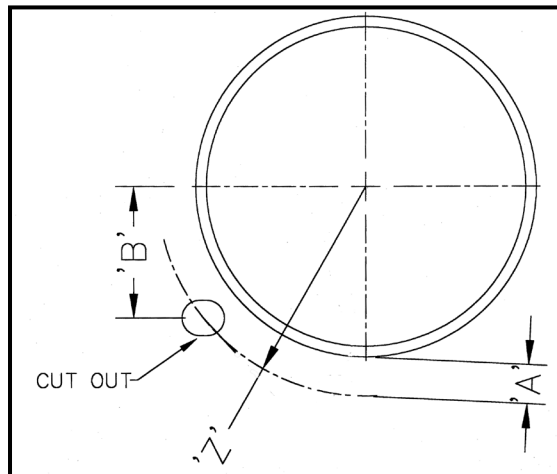
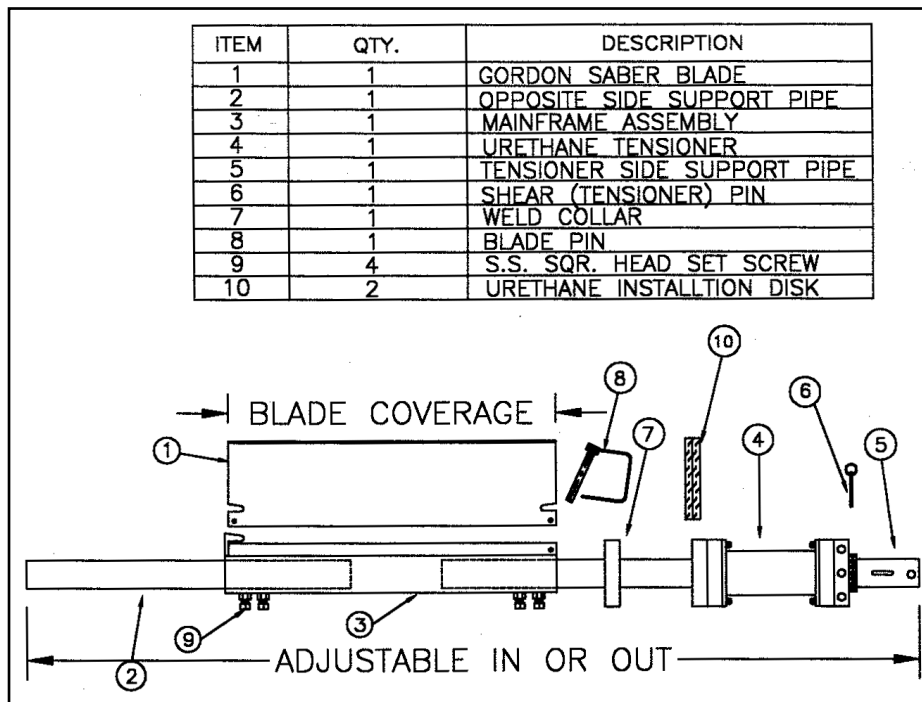
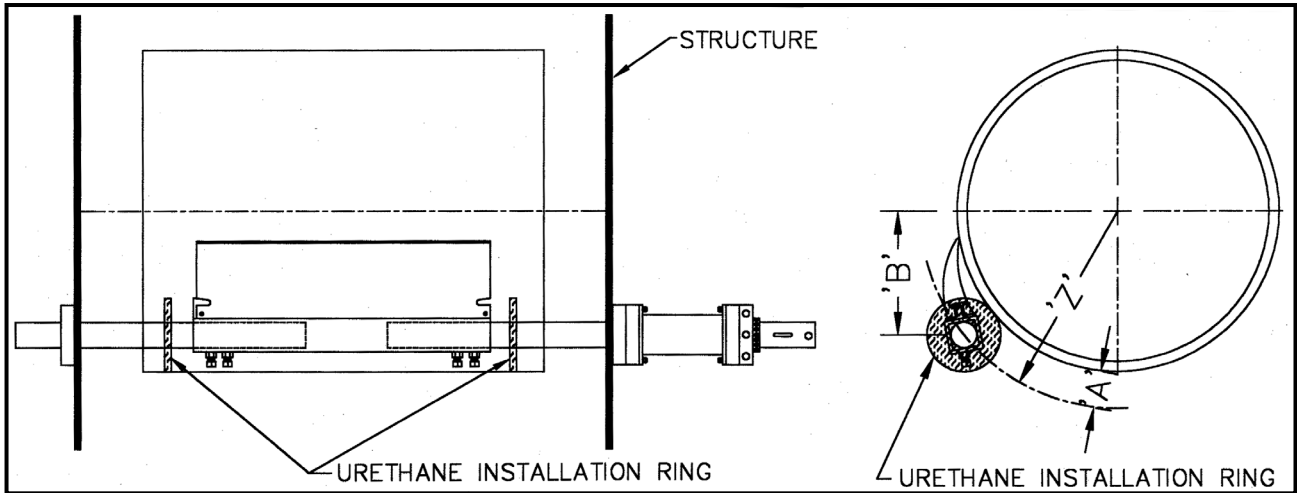

FIG 1
FIG 2
FIG 3
To this number add dimension 'A' (either 2  $\frac{3}{4}$ " (69.85mm) or 3  $\frac{1}{2}$ " (88.9mm)). To determine dimension 'A' (spacing from the face of the belt), you must first determine the head pulley diameter. If the pulley diameter is 22" or smaller, then an 'A' dimension of 3  $\frac{1}{2}$ " (88.9mm) should be used. If the head pulley diameter is larger than 22", use an 'A' dimension of 2  $\frac{3}{4}$ ". This will give you the 'Z' dimension. See Fig 1. To assist you in achieving this spacing, urethane "installation rings" have been included with the cleaner (see figure 3). Use these as directed in step 7.
From the centerline of the head pulley measure down 9 1/2" (241.3mm) (See Fig 1, Dimension 'B'). This is the highest point that the cleaner should be mounted. It can be mounted anywhere along the radius that was marked off in step 3. The limiting factor is the restriction of a dribble chute or lack of a dribble chute at the point where the belt leaves the head pulley on the return side. **Note: DO NOT install the cleaner within the trajectory of the material.**
Disassemble the cleaner (Fig 2). This is done by removing the pin (Item 6) at the end of the tensioner hub. Remove the tensioner (Item 4 - Fig 2) from the tensioner pipe. You will notice whenever the tensioner is removed, there is another weld collar (Item 7 - Fig 2). This is the weld collar for the opposite side. There will also be two urethane installation rings used to verify the 'Z' and 'A' dimensions. The two urethane rings (Item 10 - Fig 2) and tensioning instructions will be found packaged to the cleaner. You will also find the tensioner wrench inside the tensioner pipe. Loosen the setscrews (Item 9 - Fig 2) on the mainframe. **Caution! Loosen them only enough to allow both pipes (Items 2 & 5 - Fig 2) to be removed from the cleaner mainframe (Item 3 - Fig 2).** Note: On dual tensioner cleaners there will be no item 7 included. Instead, you will have two of item 4.
Put the frame and blade assembly (Items 1 & 3 - Fig 2) inside the chute and slide the support and tensioner pipes (Items 2 & 5 - Fig 2) through the 2 1/2" (63.5mm) x 3" (76.2mm) holes previously cut. Then slide the weld collar (Item 7 - Fig 2) and the tensioner (Item 4 - Fig 2) onto the support & tensioner pipes. Next, level the cleaner in relation to the head pulley. Verify the 'Z' dimension by slipping the installation rings (see figure 3) onto the support & tensioner pipe. If the head pulley diameter is larger than 22", remove the outer ring. The installation ring should be placed so that bumps against the belt face. Tack weld the weld collar and tensioner into place. Set the cleaner blade against the belt and insert the pin (Item 6 - Fig 2) into the tensioner hub. Tighten the setscrews on the mainframe and complete welding on the hubs (3-1" (25.1mm) welds on each hub is enough). Pull the pin again to check if the cleaner rotates freely in the hubs; if it doesn't, realign the hubs until it rotates freely. Note: For dual tensioner cleaners, there will not be an item 7, it is replaced by a second item 4.
Finally, pull the pin (Item 6 - Fig 2) and rotate the tensioner away from the head pulley, until the next hole shows (See Fig 4) in the tensioner hub. Reinstall the pin.